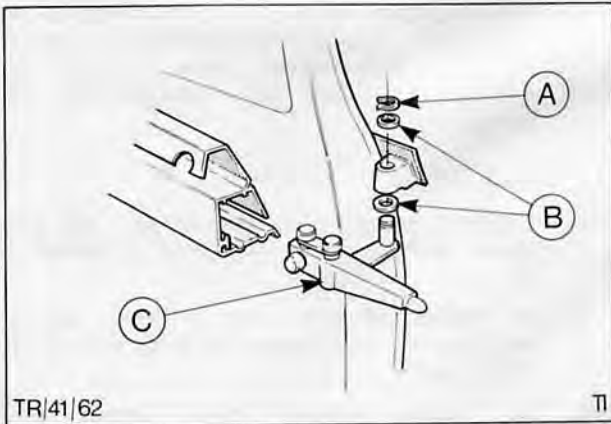

Fig. 43. Circlip and washer assembly middle roller arm spindle
4. Open door and remove circlip and washer from middle roller arm spindle, Fig. 43.
8. Check that washer is in place on middle roller arm spindle Fig. 43 'B'. Locate roller in guide rail and mount door on roller arm spindle.
11. Open door and secure middle roller arm to door link with circlip and washer, Fig. 43.